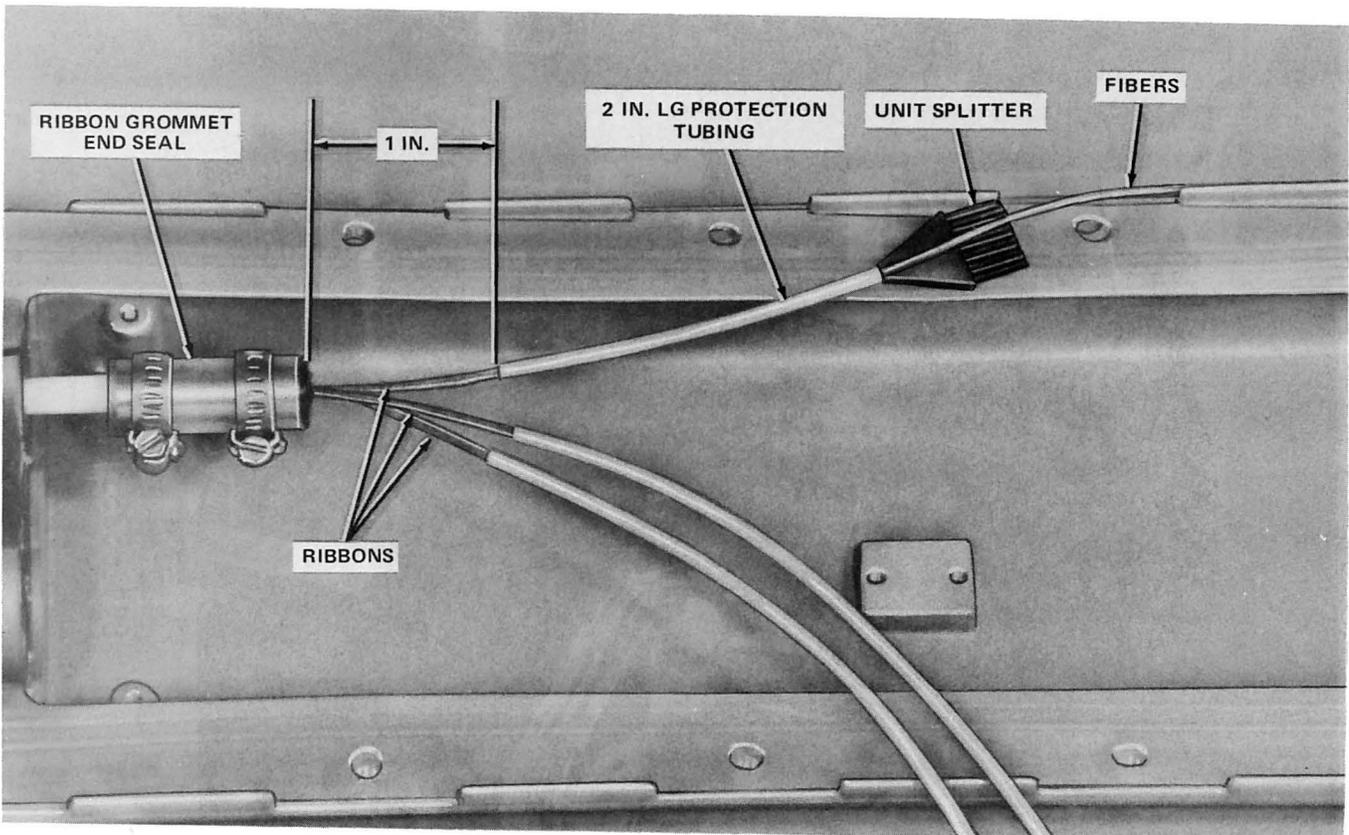

Fig. 55—Unit Splitter Installed on Ribbon Cable
8.03 If the unit splitter is used with *ribbon cable* (with or without factory STH or array splices), prepare the end seal first. Remove the tape from the fibers to within 1 inch of the end seal and then thread the fibers into the 2-inch protection tube and onto the ribbon. Place the fibers into the slot in the unit splitter entrance port and slide the unit splitter into the protection tubing. (See Fig. 55.) Ribbon-to-unit preparation is covered in detail in Part 8C, Procedure C of this practice.